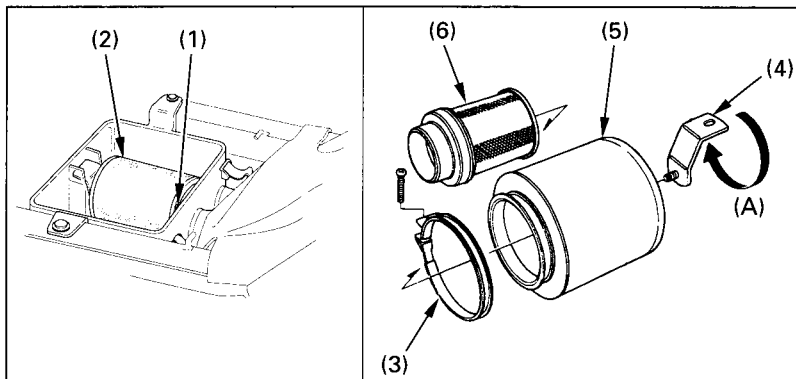

Fig. 4-5
3. Remove the screws (1) (Fig.4-5) and remove the air cleaner assembly (2) from the air cleaner housing.
4. Unscrew the clamp (3) and remove the mounting bracket (4).
5. Remove the air cleaner (5) from the air cleaner body (6).